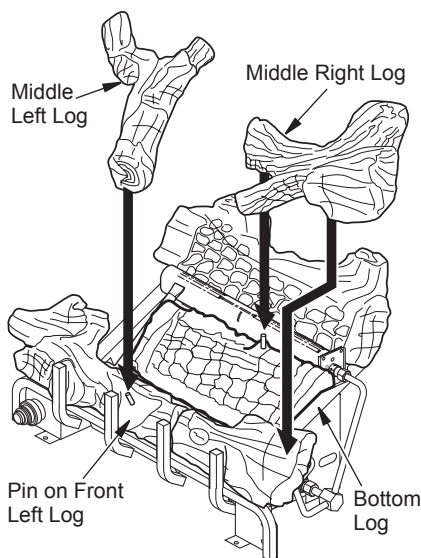

Figure 19 - Installing Log Sets
5. Place middle right log over front right and bottom logs as shown in Figure 19. Be sure hole in middle right log seats over pin in bottom log.
6. Place middle left log over front left and bottom logs as shown in Figure 19. Be sure hole in middle left log seats over pin in front left log.